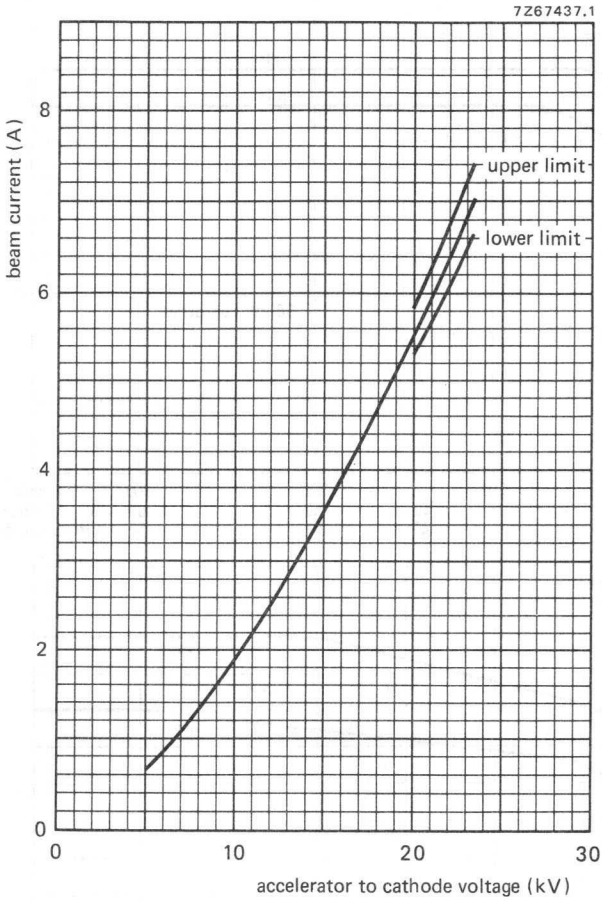

Fig. 4.
6. For beam current (tolerance  $\pm$  5%) versus accelerator-to-cathode voltage, see Fig. 4.